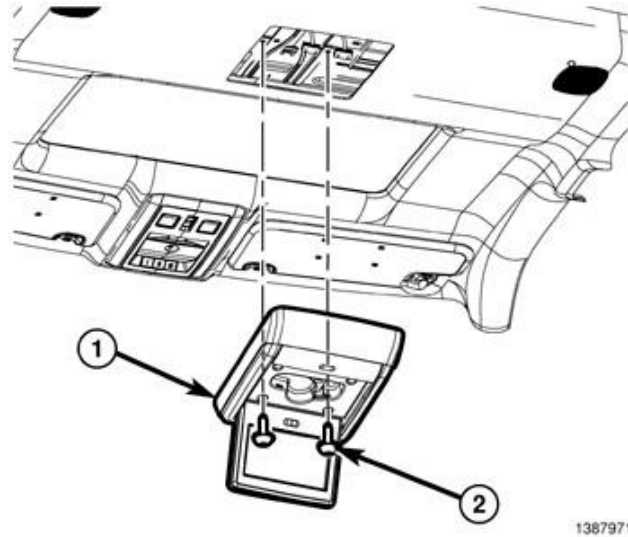
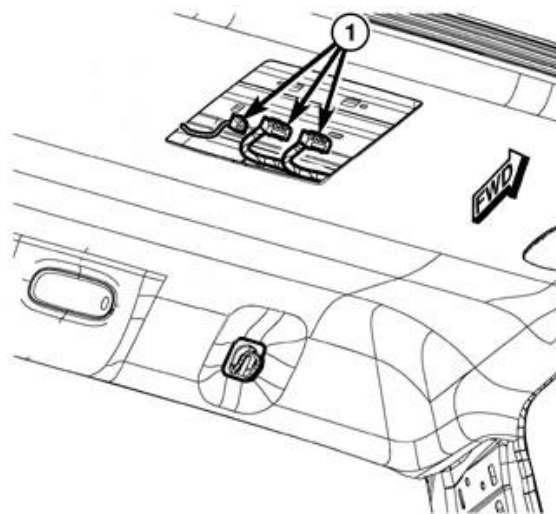

Figure 77 – Rear Seat DVD Monitor
Figure 78 – DVD Monitor Electrical Connectors
18. If equipped with DVD monitor, remove the screws (2) and separate the monitor (1) from the roof (Figure 77).
19. If equipped with DVD monitor, disconnect the electrical connectors (1) (Figure 78).
49. If equipped with DVD monitor, connect the DVD monitor electrical connectors (1) (Figure 78). Position the DVD monitor to the roof then install and tighten the screws (2) (Figure 77).